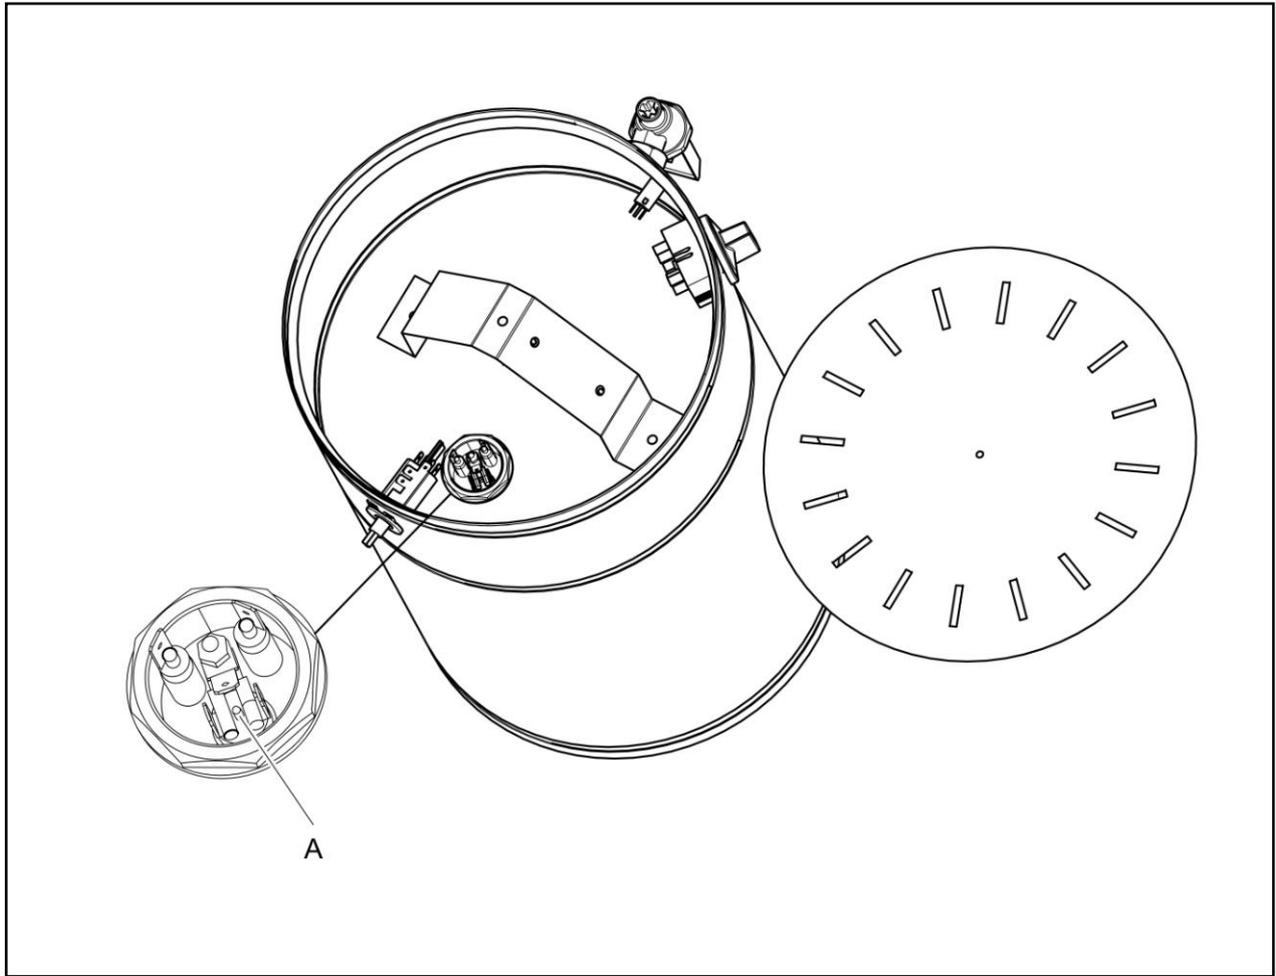

Fig 2
Press the re-set button located on the element Fig 2 (A).